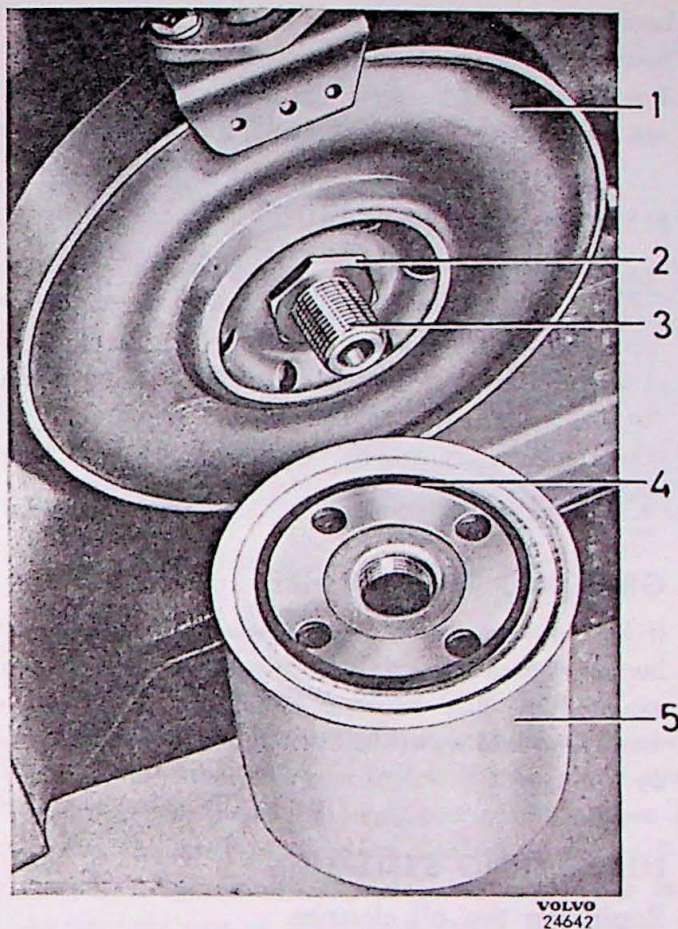

Fig. 1-59. Oil cleaner ready for fitting
2. Smear oil onto the rubber gasket on the new cleaner (4, Fig. 1-59) and make sure that the contact surface for the oil cleaner is free from dirt. If it is smeared with oil the gasket will slide better onto the sealing surface. Screw on the cleaner by hand until it just touches the oil cooler.
3. Remove the nut (2, Fig. 1-59) on the nipple for the oil cooler and pull out the cooler.
8. If the nipple (3, Fig. 1-59) is replaced, the new nipple should be tightened to a torque of 4.5—5.5 kgm (32—40 lb.ft.).